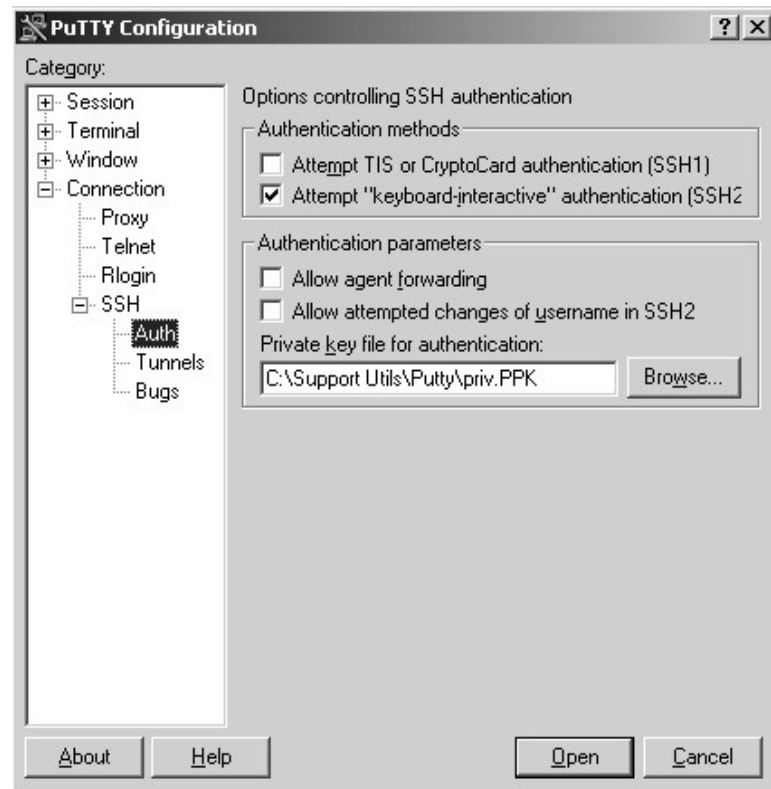

Figure 27. PuTTY Configuration panel—SSH authentication
3. From the left hand navigation pane, click Connection ,then click SSH. Click Auth. The Options controlling SSH authentication" panel is displayed. See Figure 27 on page 13.